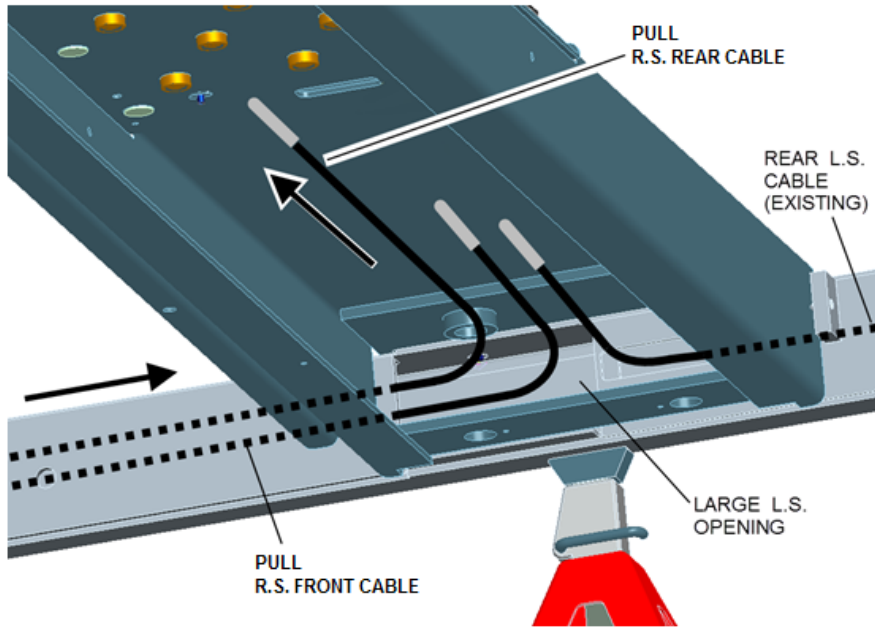

Figure 54
- Pull cable out through the LARGE opening of the rear cross-member (**Fig.54**).